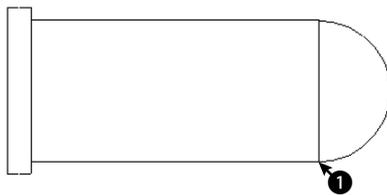

Figure 4-30: Using the From feature to complete the steam boiler.
5. The prompt asks you for a base point. Pick the endpoint at ❶ in Figure 4-30.